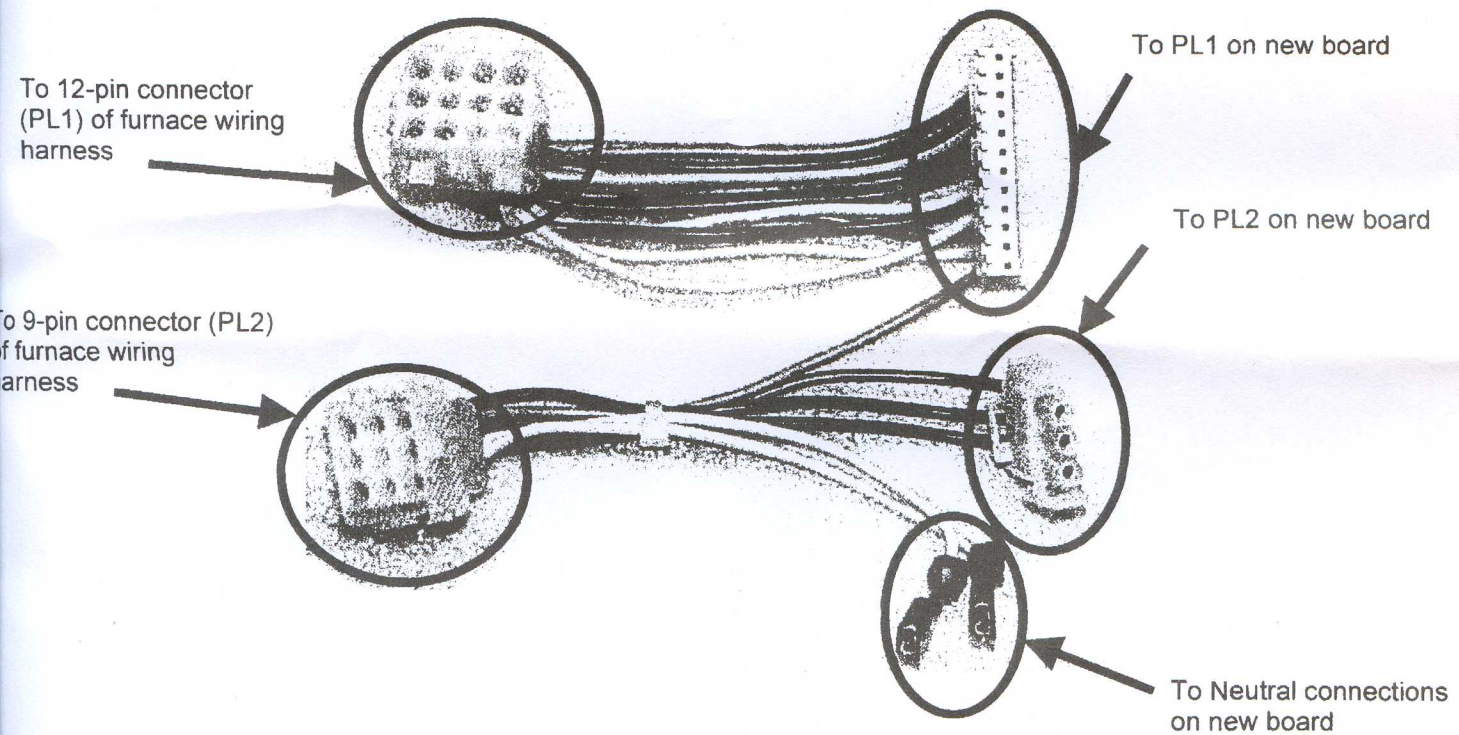

Figure 3 – Wire Harness Adapter
3. Install furnace control board retaining screw(s). Install wiring harness adapter (part# 328156-701) to two connections of the existing furnace wiring harness (see Fig. 3).